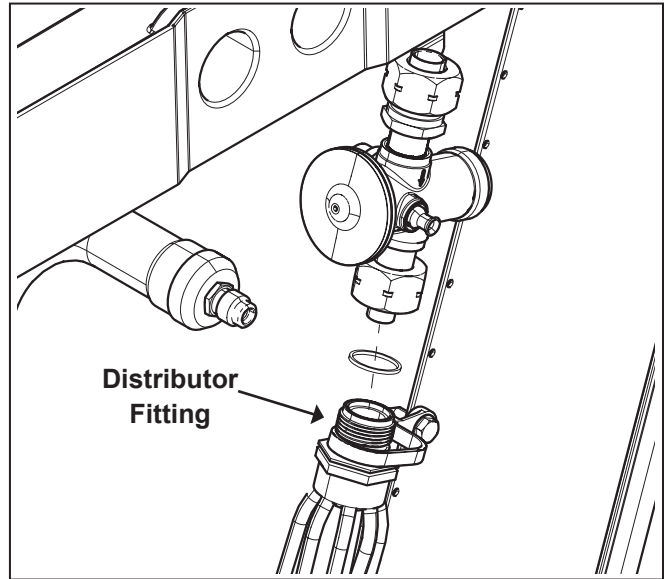
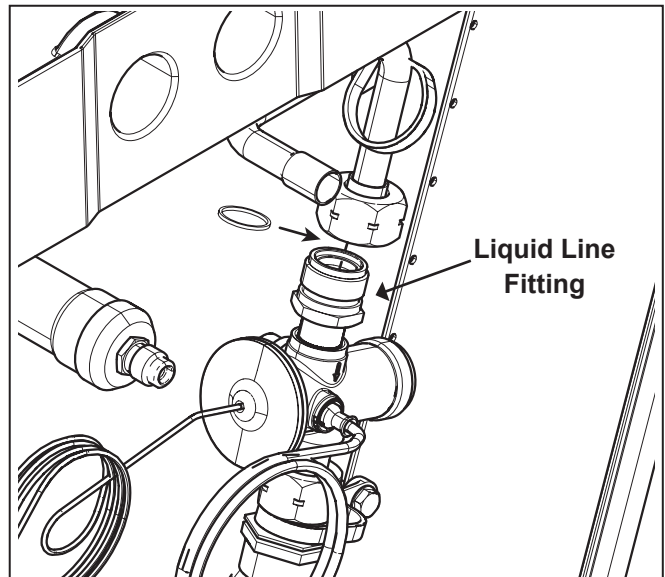

Figure 2
Figure 3
5. DO NOT oil threads. To install the Coil TXV, install one O-ring over the Distributor Fitting (Figure 2). Install the other O-ring over the Liquid Line Fitting (Figure 3) and connect the adapters by hand to ensure proper mating of threads. Tighten until bodies “bottom” or a definite resistance is felt. The valve will only fit in one direction of flow. Use a back-up wrench and tighten an additional 1/4 turn. Wrap supplied push-in cable tie around TXV then insert cable tie barb into coil housing hole.